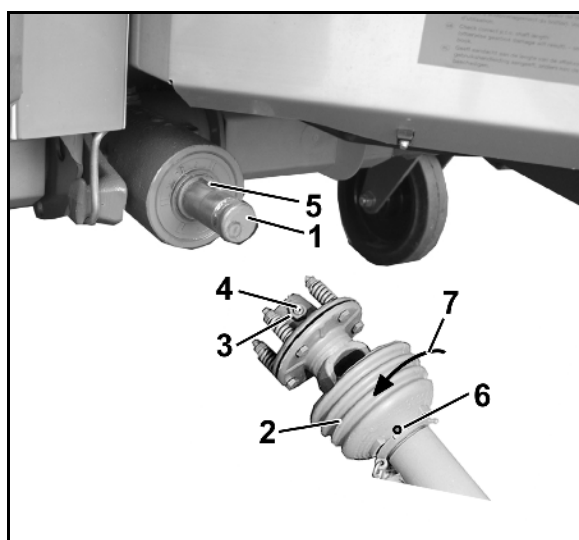

Fig. 34
2. Clean the gearbox input shaft (Fig. 34/1).
5. Turn the PTO shaft guard (Fig. 34/2) into installation position (Fig. 34/7).
7. Release the lock nut (Fig. 34/3) in the connecting fork of the friction clutch (so that the setscrew no longer protrudes beyond the lock nut), unscrew the hexagon socket set-screw (Fig. 34/4) and check that the connecting fork can be easily fitted on the gearbox shaft.
9. Secure the PTO shaft against axial movement. Firmly tighten the setscrew with a hexagon socket wrench and lock with nut (Fig. 34/3).
2. Unscrew the lock nuts (Fig. 34/3) in the connection fork from the friction clutch. Remove the setscrew (Fig. 34/4).